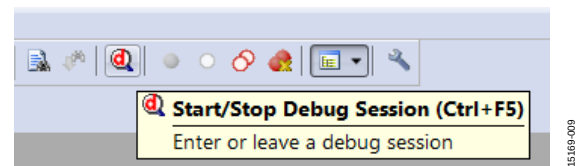
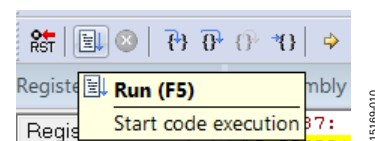

Figure 4. Download and Debug Button
Figure 5. Run (F5) Button
5. To run the example code, press RESET on the evaluation board or enter debug mode by clicking the **Start/Stop Debug Session (Ctrl+F5)** button (see Figure 4) and then click **Run (F5)** (see Figure 5).